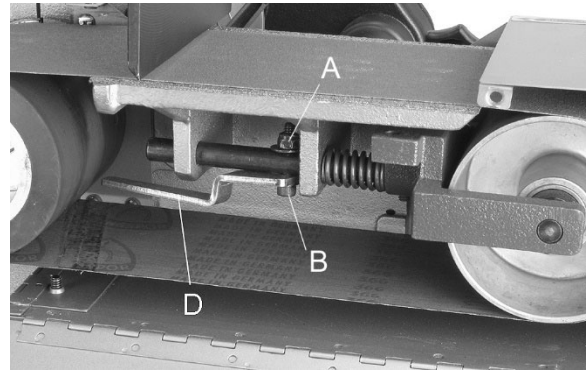

Figure 10-1: sanding belt tension
3. Pull tension lever (D, Figure 10-1) outward to compress spring and de-tension belt.
5. Push lever (D) inward to tension belt.
If sanding belt tension lever becomes loose, hold the lock nut (A, Figure 10-1) with an 11mm wrench, and tighten screw (B) with 5mm hex wrench. Lever should be snug but still easily moved.